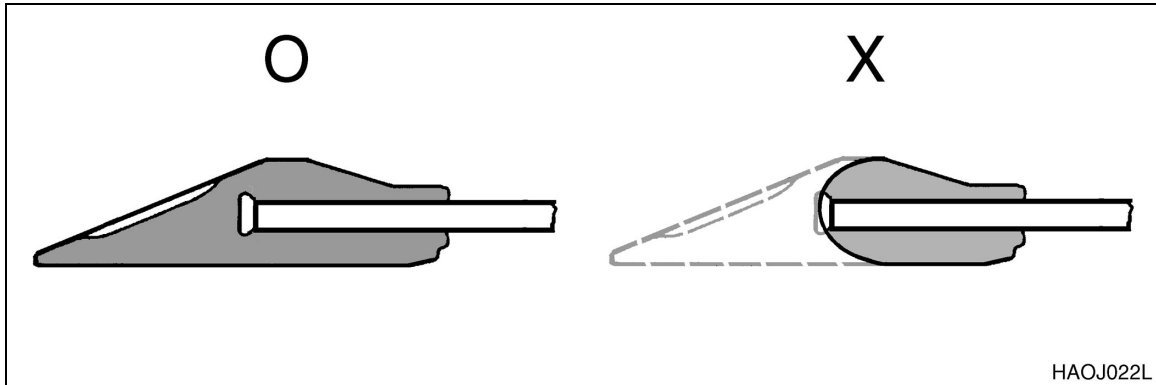

Figure 3
1. On a routine basis, inspect the bucket teeth to make sure that tooth wear or breakage has not developed. Do not allow the replaceable bucket teeth to wear down to the point that the bucket is exposed. See Figure 3.